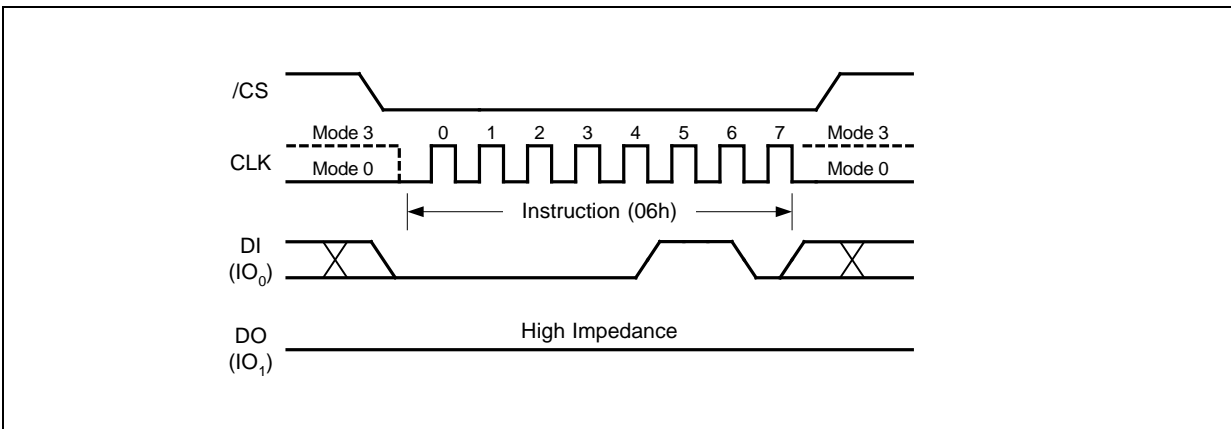

Figure 4. Write Enable Instruction
The Write Enable instruction (Figure 4) sets the Write Enable Latch (WEL) bit in the Status Register to a 1. The WEL bit must be set prior to every Page Program, Quad Page Program, Sector Erase, Block Erase, Chip Erase, Write Status Register and Erase/Program Security Registers instruction. The Write Enable instruction is entered by driving /CS low, shifting the instruction code "06h" into the Data Input (DI) pin on the rising edge of CLK, and then driving /CS high.